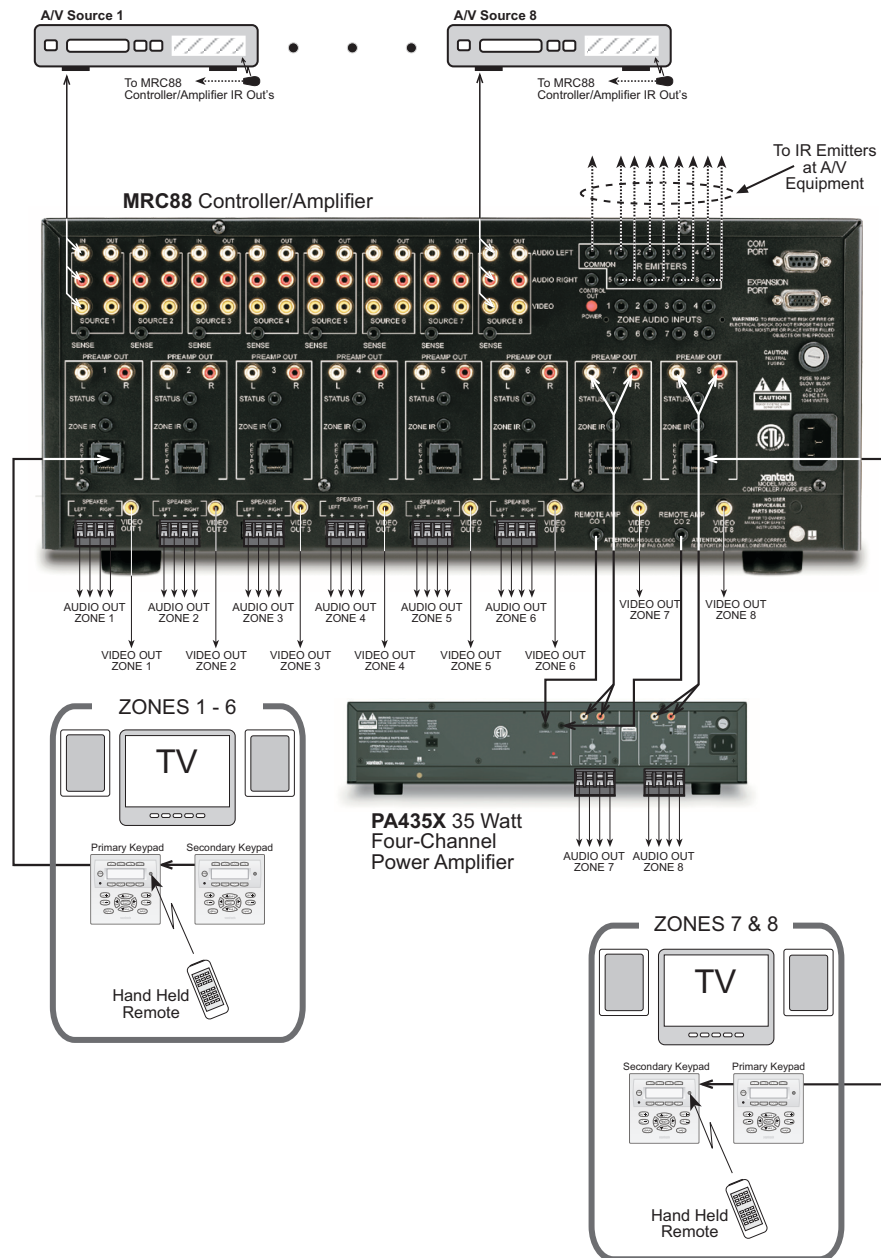

Figure 13 –Typical MRC88 System
To better demonstrate the ease and versatility of programming the MRC88, **Figure 13** will be used to illustrate setup for a typical application.
4. Assemble the components into a working MRC88 system such as that shown in **Figure 13**.